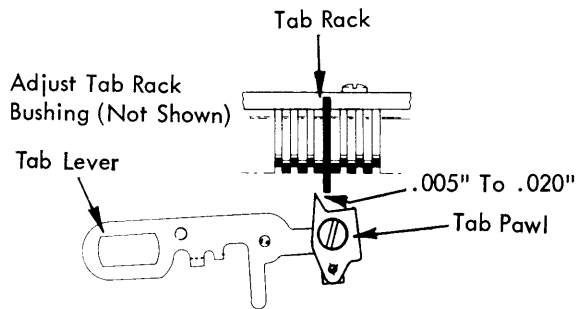

FIGURE 167. Tab Rack Adjustment
6. Tab Rack - Set a tab stop and backspace one time. Slowly depress the tab keylever while holding the carrier to prevent it from moving to the right. A clearance of $.005''$ to $.020''$ should exist between the tip of the tab lever pawl and the tab stop as the tips are in line with each other (Fig. 167). Adjust the tab rack bushing at the right end of the tab rack to obtain this condition. The locking plate, which holds the bushing in position, must be loosened before the adjustment can be made.